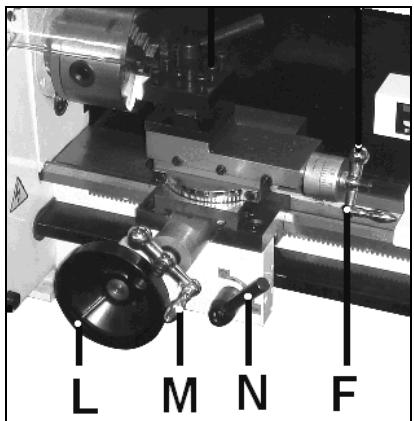

Fig 8
Apron travel (L, Fig 8), cross travel (M) and top slide travel (F) can be operated for longitudinal and cross feeding.
Engage the halve nut (N, Fig 8). The halve nut must be engaged during the entire threading process.